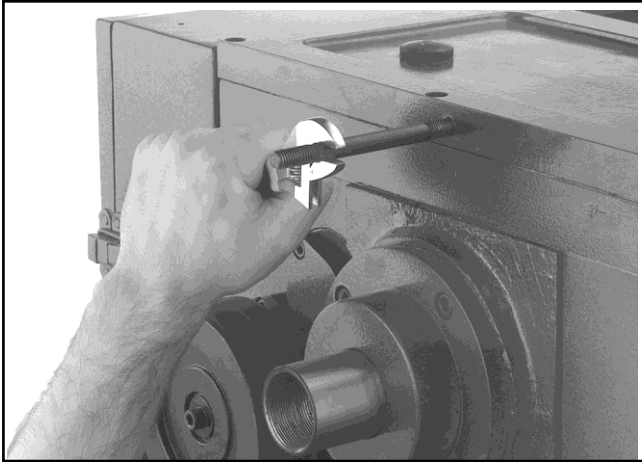

Figure 2. Mounting stud removal.
1. Remove the upper mounting stud as shown in **Figure 2**.